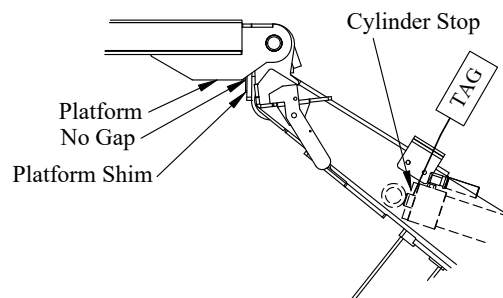

Figure 9: Platform shim & cylinder stop.
4. **Raise** the liftgate using toggle switch to make sure liftgate is completely raised into the tagged cylinder stops (Figure 9).
10. **Verify** that the platform is fully rotated against the platform shims and there is no gap (Figure 9).
22. **Remove** the tagged cylinder stops from each cylinder (Figures 9 & 12).